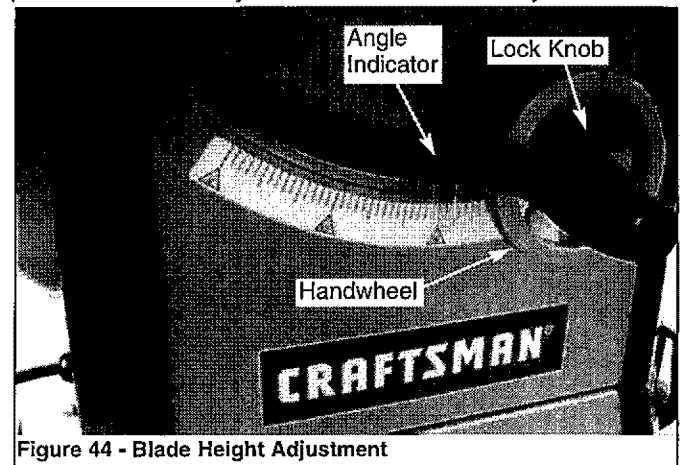
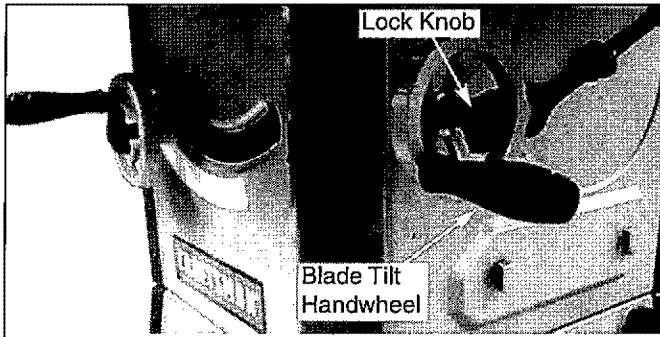

Figure 44 - Blade Height Adjustment
Figure 45 - Blade Tilt Handwheel
Refer to Figure 44.
Refer to Figures 44 and 45, page 15 and 16.
- The saw blade can be set at any angle between 90° and 45°. Blade tilt is controlled by the handwheel (Fig. 44) on the right side of the saw. The indicator (Fig. 45) on front of saw shows the tilt angle of the blade.
Refer to Figures 44 and 46.